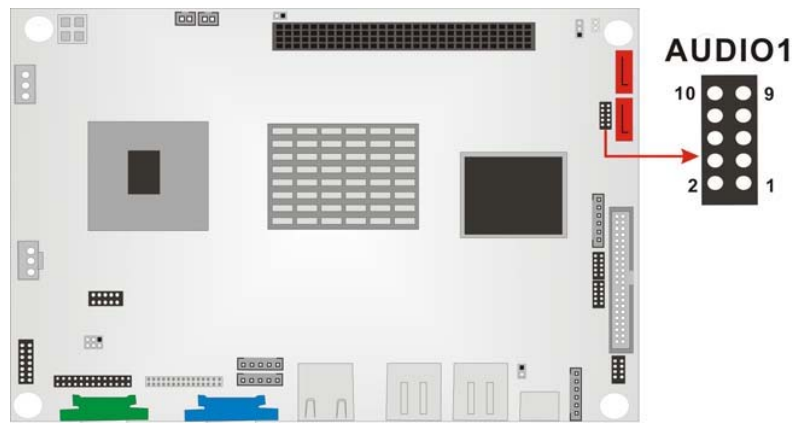

Figure 3-6: Audio Connector Location
- CN Location:** See Figure 3-6